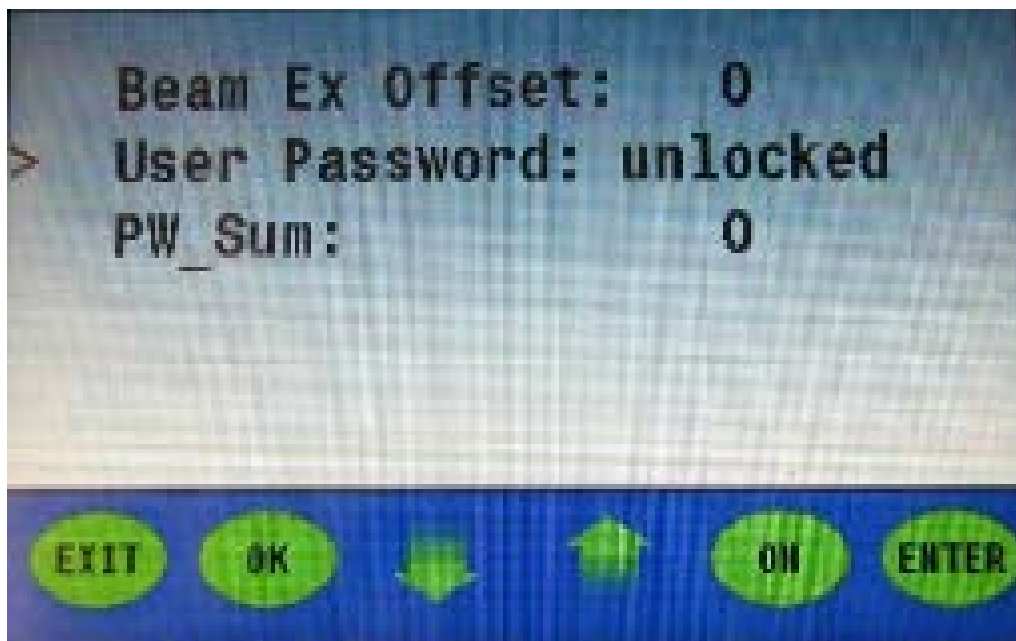

Figure 18
11. Press the **enter button** to input the new password and return to “**User Password: Unlocked**” on the menu list (**figure 18**).